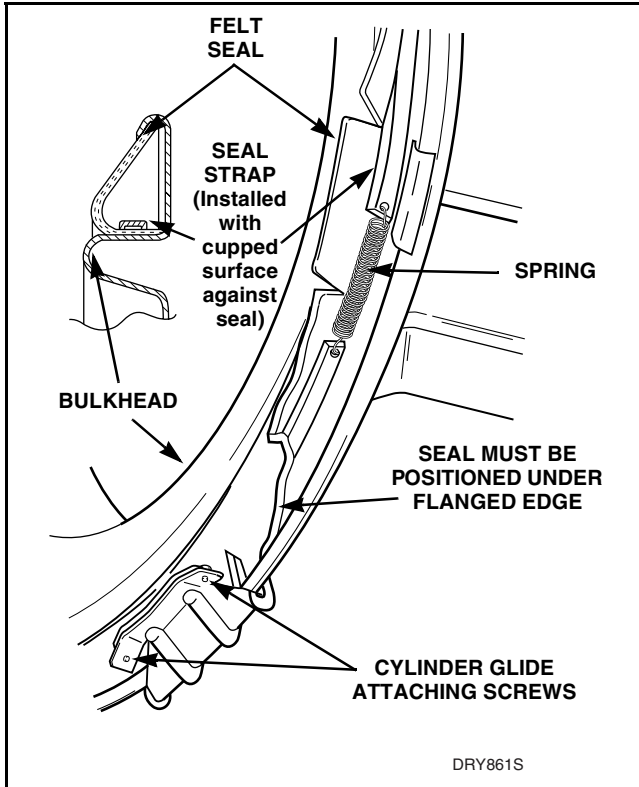

Figure 33
- Cylinder Glide** – Refer to *Figure 33*.
- Front Cylinder Seal** – Refer to *Figure 33*.
- l. Pull rear cylinder seal from under flanged edge of bulkhead. Refer to *Figure 33*.
- m. Carefully unhook spring from the seal strap. Refer to *Figure 33*.